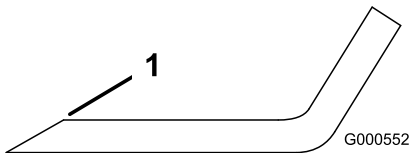
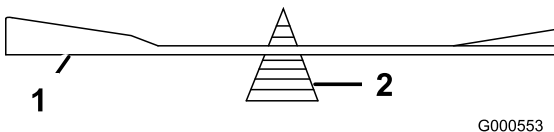

Figure 47
Figure 48
- Use a file to sharpen the cutting edge at both ends of the blade (Figure 47). Maintain the original angle. The blade retains its balance if the same amount of material is removed from both cutting edges.
- Check the balance of the blade by putting it on a blade balancer (Figure 48). If the blade stays in a horizontal position, the blade is balanced and can be used. If the blade is not balanced, file some metal off the end of the sail area only (Figure 47). Repeat this procedure until the blade is balanced.